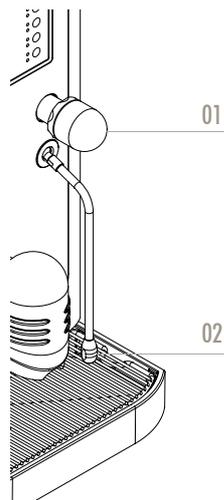

Figure 4
Hot water is always available, whether for tea, a pot lunch or a cup of soup. The S400 dispenses the hot water via the separate adjustable tea outlet. Simply place the tea glass beneath the tea outlet and press the HOT WATER KEY (Fig. 4, pos. 01). Dispensing can be stopped by pressing the HOT WATER KEY again.
1. Open the steam cock (Fig. 4, pos. 01) briefly, to rinse out the condensed water and then close again.
2. Hold the steam outlet (Fig. 4, pos. 02) into the milk which is to be heated and open the steam cock until the desired temperature is reached.